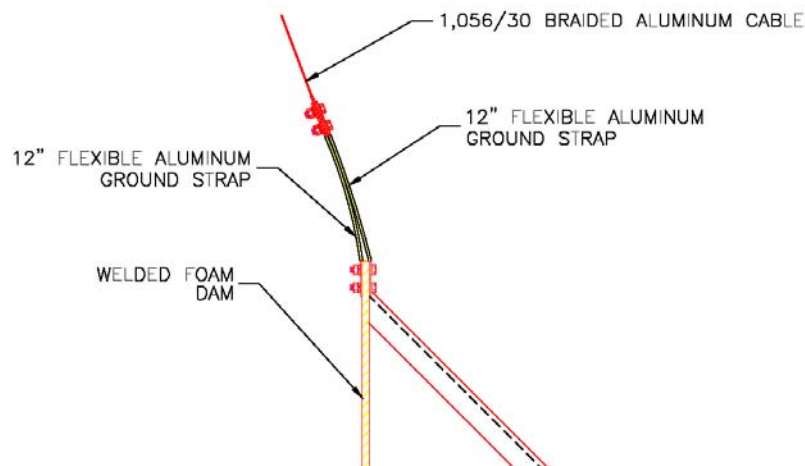

Figure 12: Ground Straps on Either Side of Welded Foam Dam
3. Pull the cable out the intended travel distance and carefully allow it to rewind. This procedure should be repeated five (5) to ten (10) times in order to prepare the springs for use.
4. Secure the supplied Ground Straps to the tank and RGA cable, one on each side of the foam dam or custom bracket and RGA Cable, with the supplied stainless steel hardware (see Figure 12).